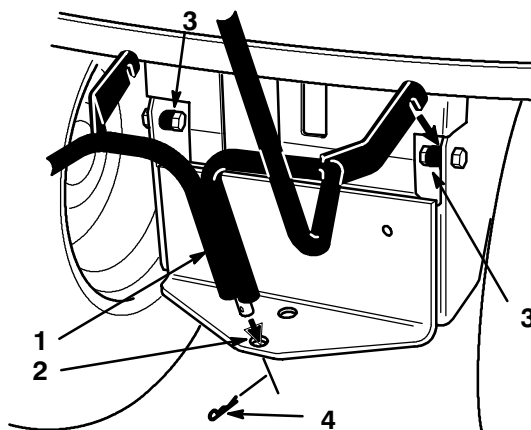

Figure 25
- Slide the bottom of the quick-attach bracket up out of the hole in the hitch and unhook from the spacers located inside the tractor frame (Fig. 25).
- Remove the hair pin cotter from the hole at the bottom of the quick-attach bracket (Fig. 25).